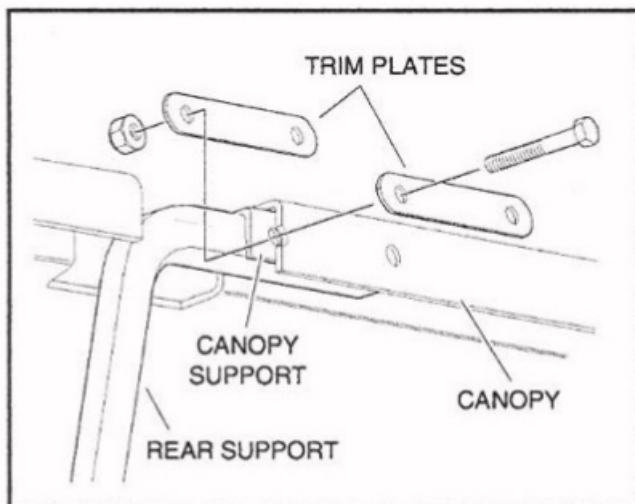

Figure 1 Remove Canopy Mounting Screws—Separate Seat Back Design
- 1.1. Remove the four screws and nuts and two canopy trim plates that secure the rear braces to the canopy (**Figure 1**).